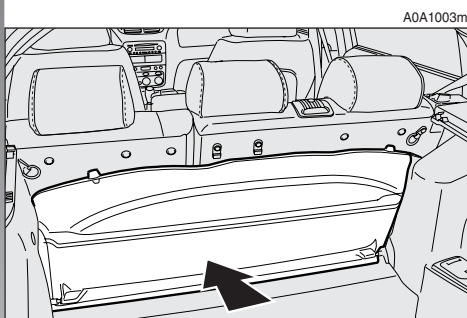

fig. 22
- across in the luggage compartment as illustrated in **fig. 22**;